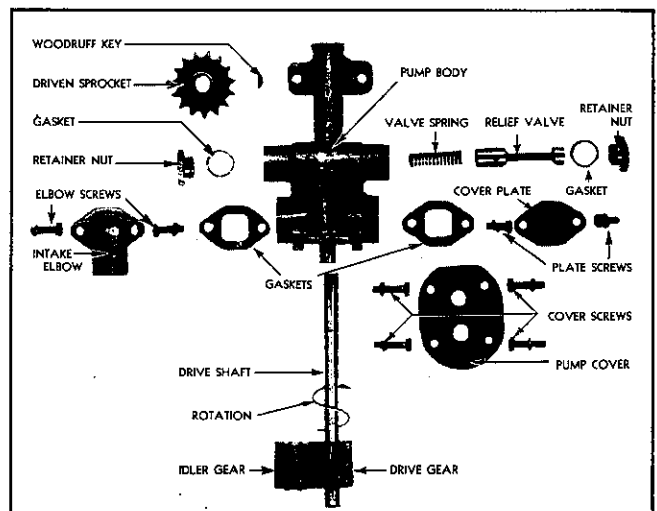

Fig. 11—Six Cylinder Lubricating Oil Pump Details—for RA, RB, RC, and RD Models.
Again, as viewed from the drive end, the intake will be positioned on left side, and the relief valve spring on same side of the pump for RA, RB, RC and RD engines, and on the right side of the pump for LA, LB, LC and LD engines. (See Figs. 11 and 12.)
With these identification features in mind, and by reference to Figs. 11 and 12, this Sec., assemble the lubricating oil pump, as follows:
6. Note on what engine model the pump is to be used, then refer to Figs. 11 and 12, and assemble the relief valve in the pump body. As viewed from sprocket (or gear) end of pump, the intake and relief valve spring will both be on left side of pump for RA, RB, RC and RD model engines, and on right side of pump for LA, LB, LC and LD model engines.